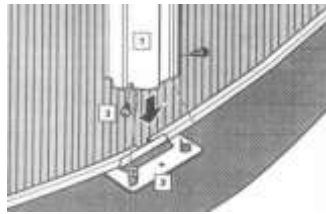

fig. 26
- a. Align the lower part of one of the vertical sections (VER) (1) with the two small tabs on the base plates (T1) (2). The tabs must be on the inside of the vertical section, fig. 26.
- b. Align the openings for positioning screws TO2 (3), on either side of the vertical section, making sure that they attach to the holes in the T1 (2) plate tabs, fig. 26.